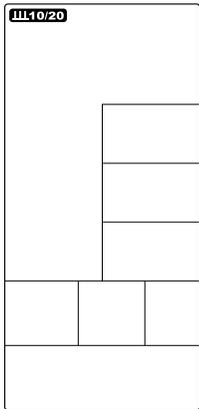

Figure 4
6. The windows for **INTERVAL 10/20**, **INTERVAL 20/10**, **INTERVAL CUSTOM**, **READY**, **WORK**, **REST**, **TIME**, **DISTANCE**, **CALORIES**, **WATTS**, **SPEED**, **RPM**, and the heart rate icon (♥) will flash sequentially every 1 second (see Figures 4–16).